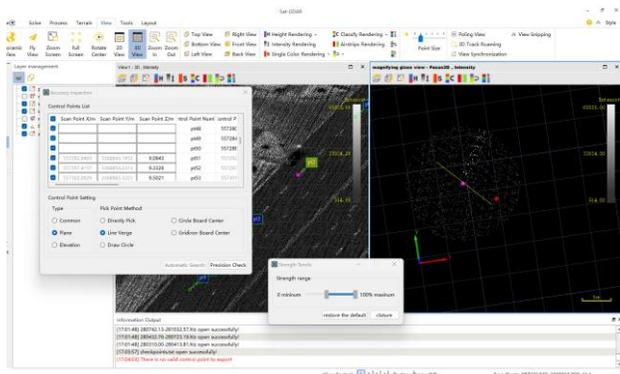

Figure 3-80 Fitting the intersection
- Ordinary point selection: directly in the magnifying glass view of the left click to select the point; fit intersection is based on the identification of the intersection of two lines to determine the point of selection (Figure 3-80).